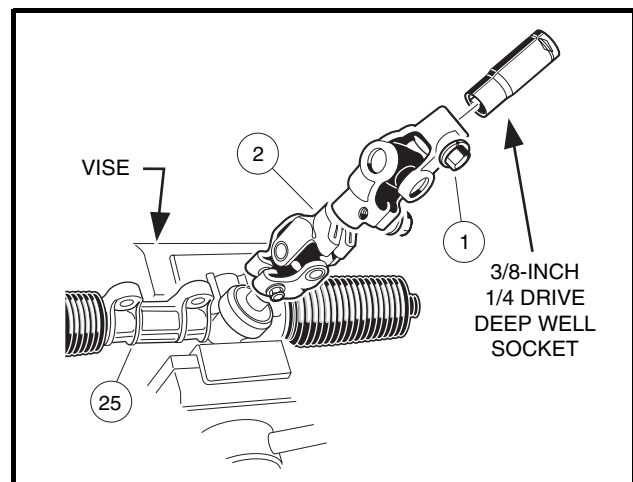

Figure 7-14 Rack and Pinion Resistance
12.2. Insert a 3/8 inch deep well socket into the steering column end of the universal joint (2) and tighten the bolt (1) to 15 ft-lb (20.3 N·m) (**Figure 7-14, Page 7-11**).